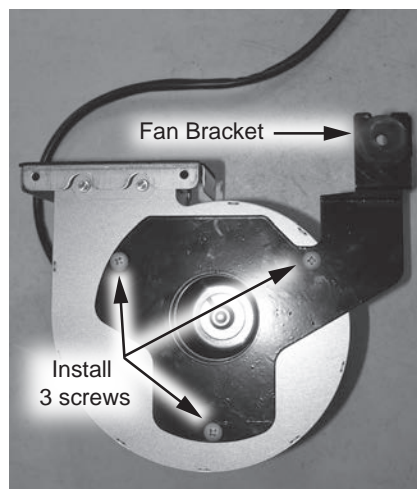

Figure 106 - Install fan bracket
- 25 Remove the three screws securing the fan bracket to the old fan assembly. Place screws aside in a safe place for reinstallation. See Figure 106.
- 26 Secure the new fan bracket to the new fan assembly using the screws removed **Step 25**. See Figure 106.